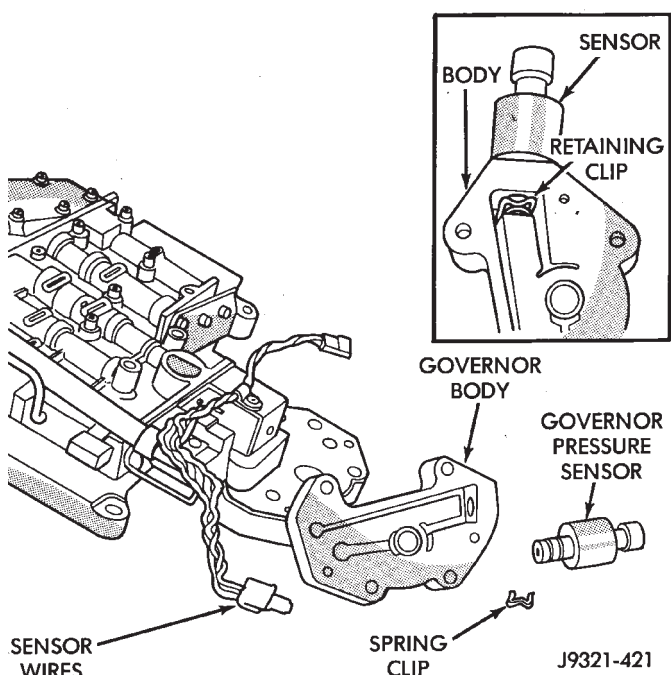

Fig. 93 Governor Pressure Sensor Removal
- (4) Disconnect wires from governor pressure sensor, if not done previously (Fig. 93).
- (5) Remove governor pressure sensor from governor body. Sensor is retained in body with M-shaped spring clip (Fig. 93). Remove clip with small pointed tool and slide sensor out of body.